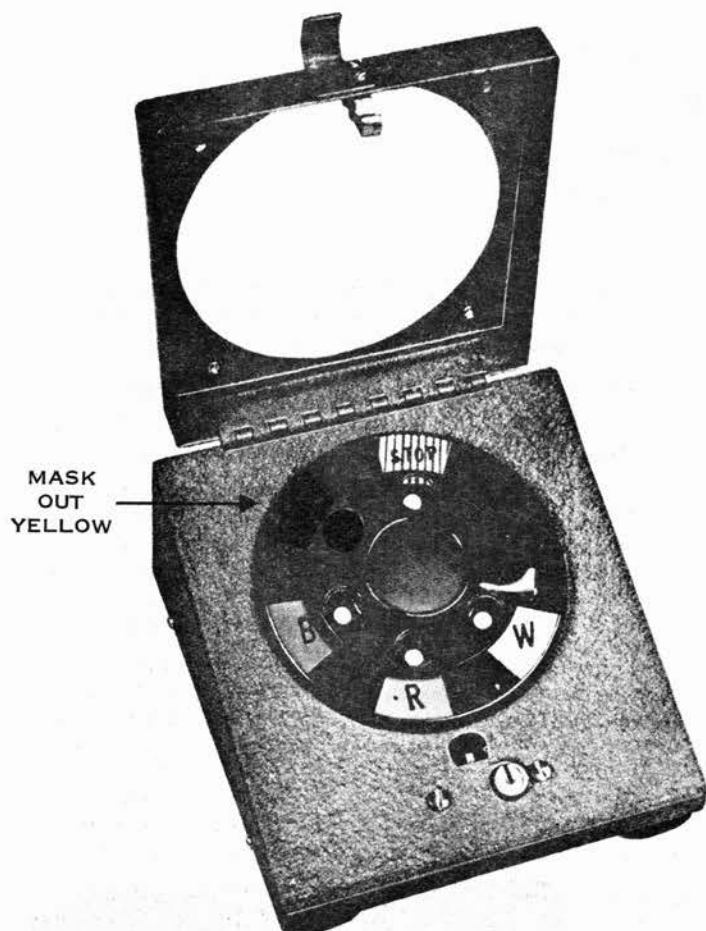

Fig. 3 - CADW Dial with Cover Open
2.02 The dial is mounted in a gray-green wrinkle-finish metal housing (approximately 6 inches square) with an inclined top. A hinged cover with Plexiglas window protects the dial. The cover also has a lock and key. In case of emergency, the cover may be forced open without the key, but the key is required for relocking (Fig. 3).